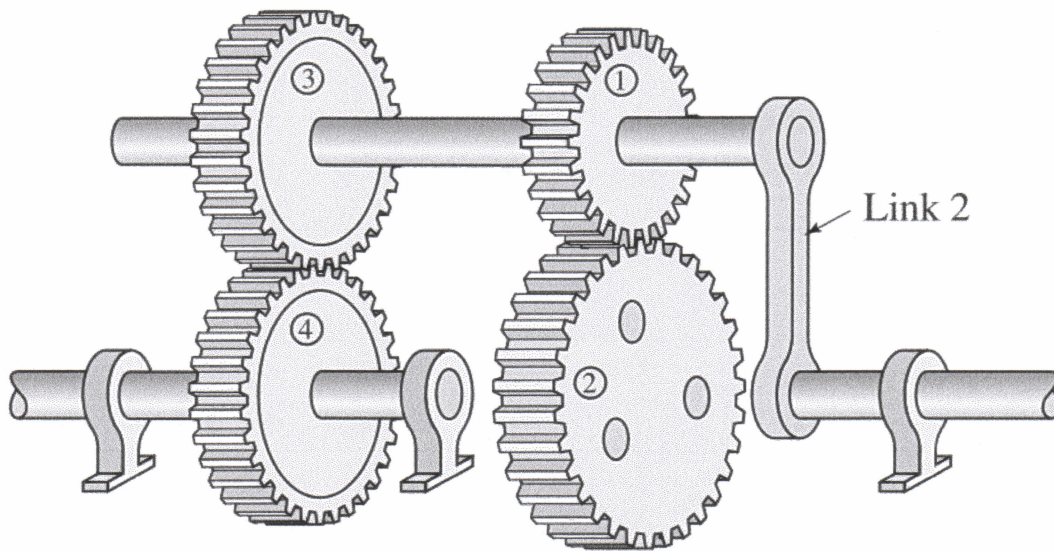

Figure Q4
- Q4** The carrier (link 2) in **Figure Q4** serves as the input to the train. Gear 2 is the fixed gear and has 48 teeth, gear 1 has 24 teeth, gear 3 has 25 teeth, and gear 4 has 35 teeth.